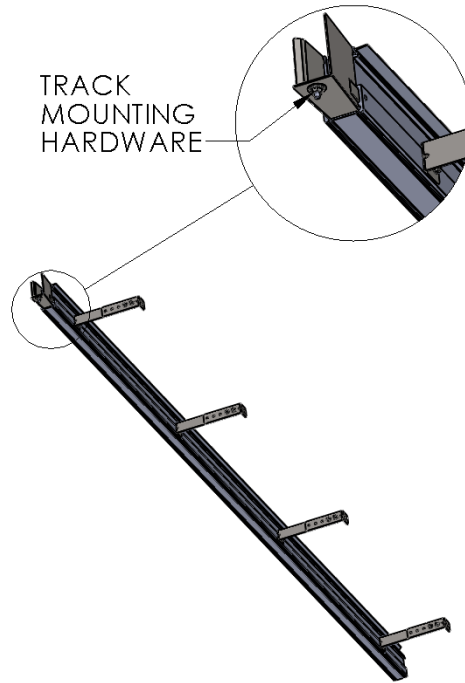
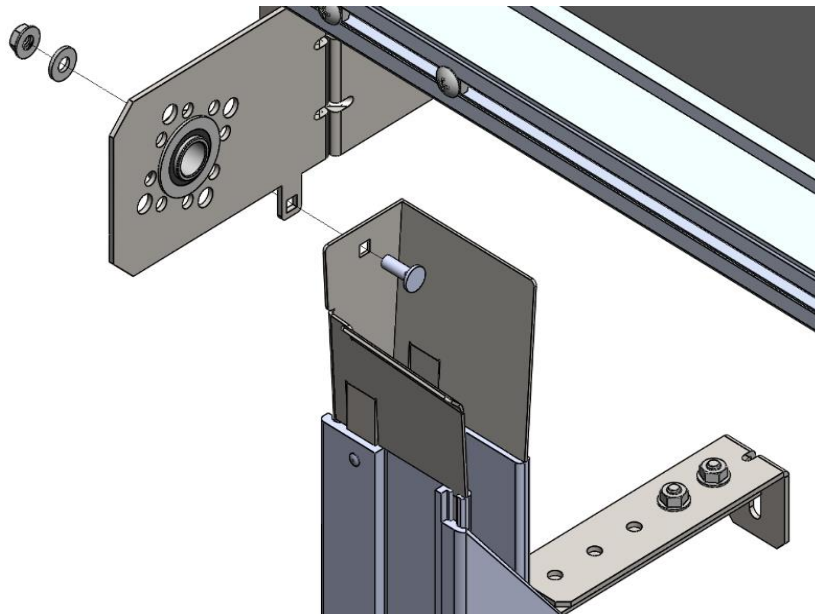

Figure 9 TRACK MOUNTING HARDWARE
Figure 10 G1 STANDARD MOUNT TRACK TO HEADER
2. Align the Track under its respective Header Mounting Bracket, and “hang” the Track Assembly by its Transition Bracket Mounting Hardware. (Figure 9 TRACK MOUNTING HARDWARE), and (Figure 10 G1 STANDARD MOUNT TRACK TO HEADER)
3. With the carriage bolt inserted from the inside of the Track Transition, snug the washer and hex nut on the outside of the assembly, as shown. Just snug this hardware for now. (Figure 10 G1 STANDARD MOUNT TRACK TO HEADER)